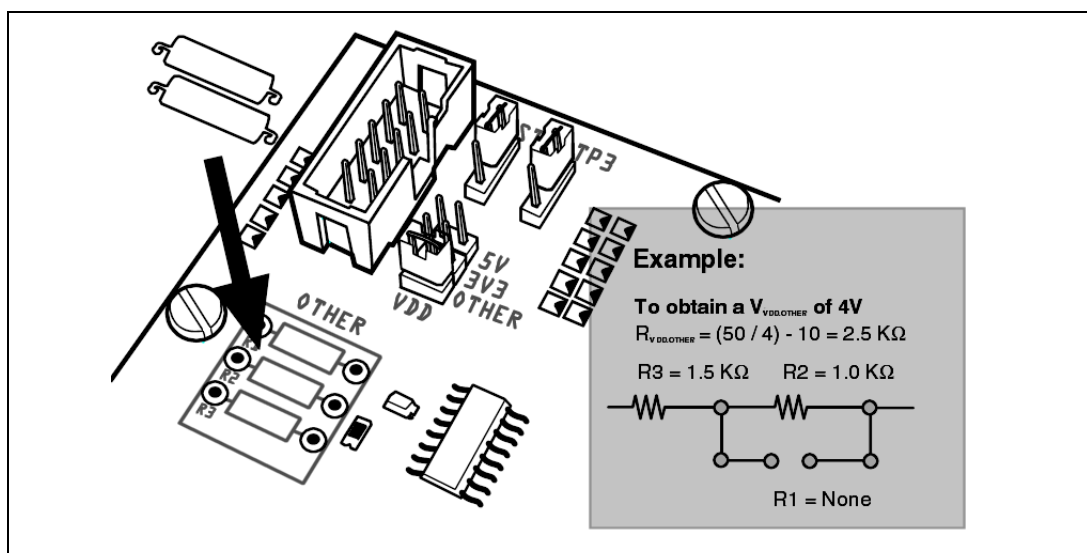

Figure 3: Installing serial resistors
- 2 Install the necessary resistors in the **OTHER** area on the socket board. Figure 3 shows one possible solution for the example in Step 1.